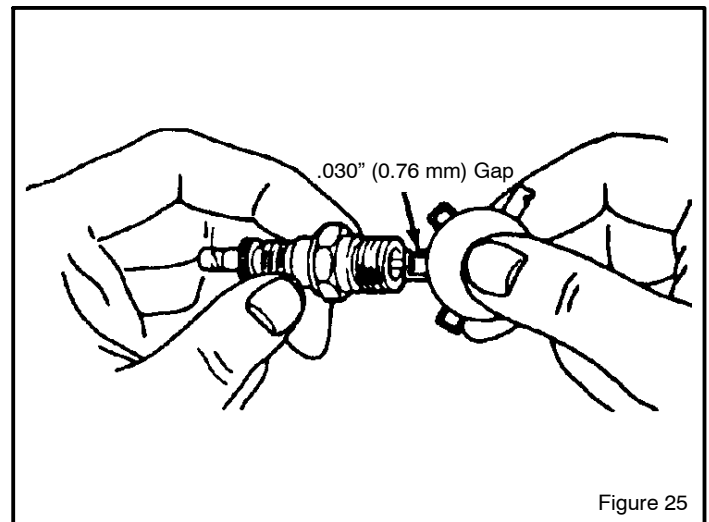

Figure 25
7. Set the gap between the electrodes of the new **spark plug** at 0.030 inch (Figure 25).